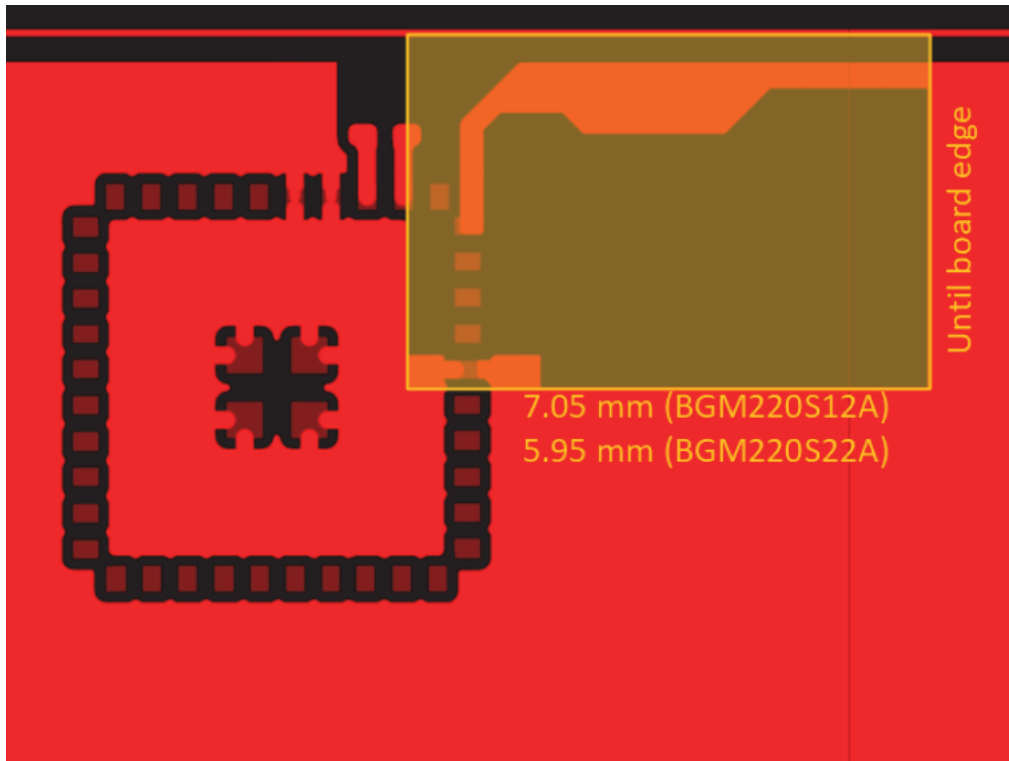

Figure 7.3. Antenna Clearance in Inner and Bottom Layers
- Make a cutout in all lower layers aligned with the right edge and the bottom edge of the antenna as indicated by the yellow box in Figure 7.3 Antenna Clearance in Inner and Bottom Layers on page 34.
- Generally ground planes are recommended in all areas of the application board except in the antenna keep-out area shown in Figure 7.3 Antenna Clearance in Inner and Bottom Layers on page 34.